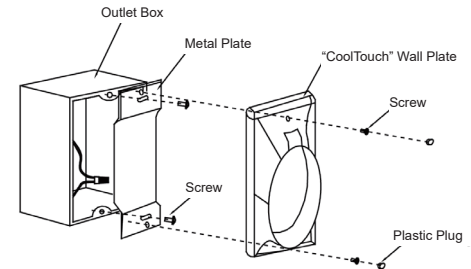

Fig. 23
Step 2. Install the metal plate and “CoolTouch” wall plate to the existing wall outlet box with 4 screws provided. Then place the two plastic plugs into the wall plate. (Fig. 23)